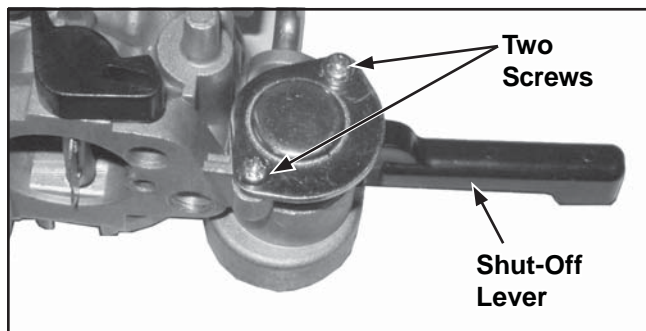
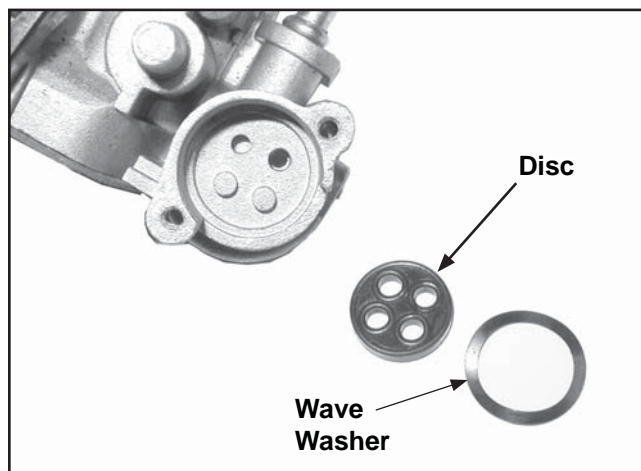

Figure 5-15. Fuel Shut-Off Lever.
Figure 5-16. Fuel Shut-Off Disc and Wave Washer.
5. Remove the two screws, top plate, and fuel shut-off lever. See Figure 5-15.
6. Remove disc and wave washer. See Figure 5-16.
9. Install the fuel shut-off disc and wave washer into the chamber of the fuel shut-off. See Figure 5-16. Install the fuel shut-off lever and top plate, and secure with the two screws. See Figure 5-15.